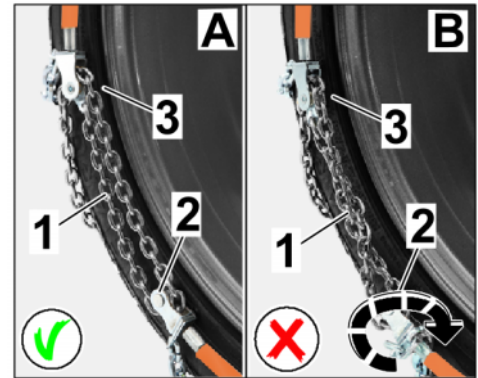

Figure 8
2.2.2 Check that the tensioning chain is running parallel at the tensioning point and deflection roller (end of spring steel clip on inside of wheel) ⇒ *Figure 8-A-* and is **NOT** twisted ⇒ *Figure 8-B-*.
Turn deflection roller for spring steel clip if necessary (⇒ *Figure 8-Arrow-*).